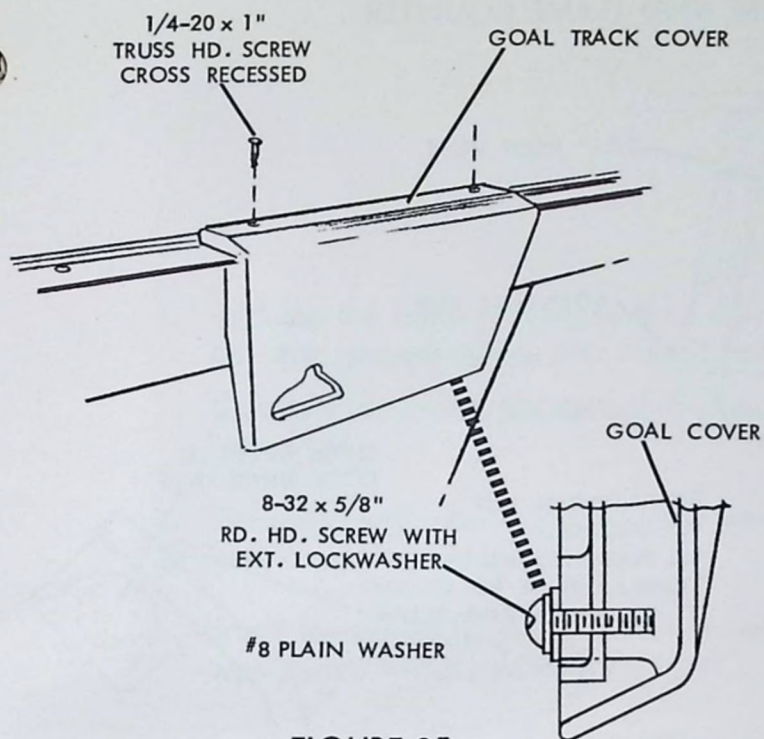

FIGURE 25
36. Install the goal covers with hardware shown (Figure 25). Hardware at the top lower corners.